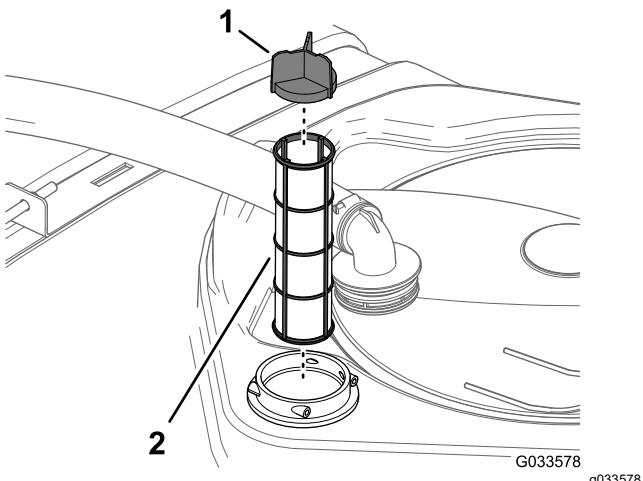

Figure 103
4. Remove the old suction filter from the filter housing in the tank (Figure 103).